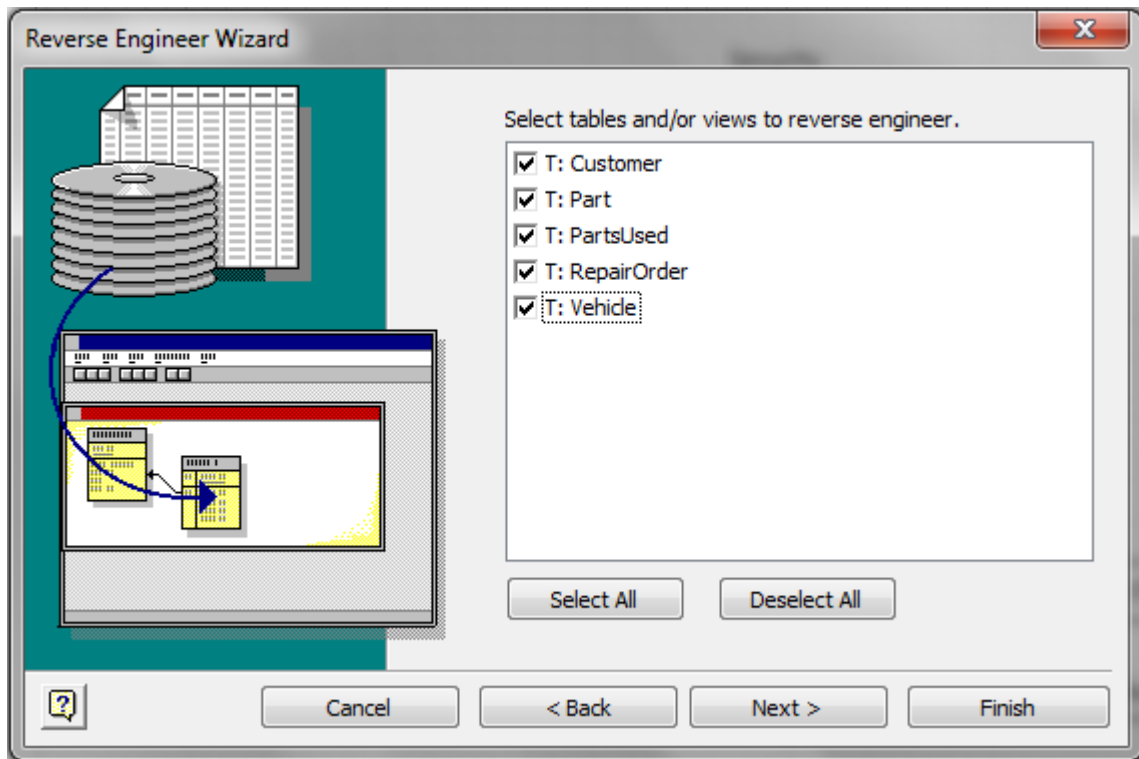

Figure 66: Third Window of the Reverse Engineer Wizard
5. Third Wizard Window: The third window (Figure 66) asks you to choose the database tables to convert. Click the **Select All** button to select all of the tables in the list. Click the **Next** button to continue.